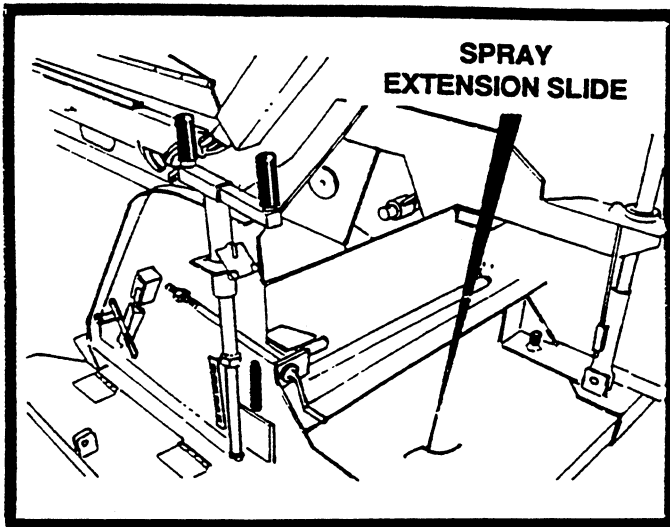

FIGURE 31
7. Grease extension slide with multi-purpose grease or spray with fuel oil at points shown in Figure 31.